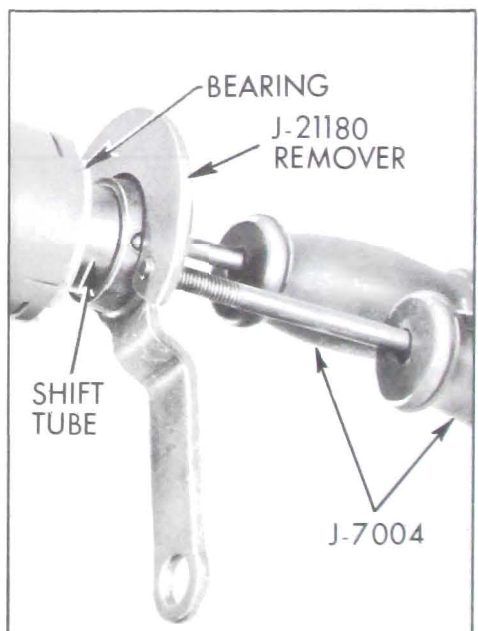

Figure 8-81—Removing Shift Tube
5. Remove the shift tube downward through column using two Slide Hammers J-7004 and Remover J-21180 (see Figure 8-81).